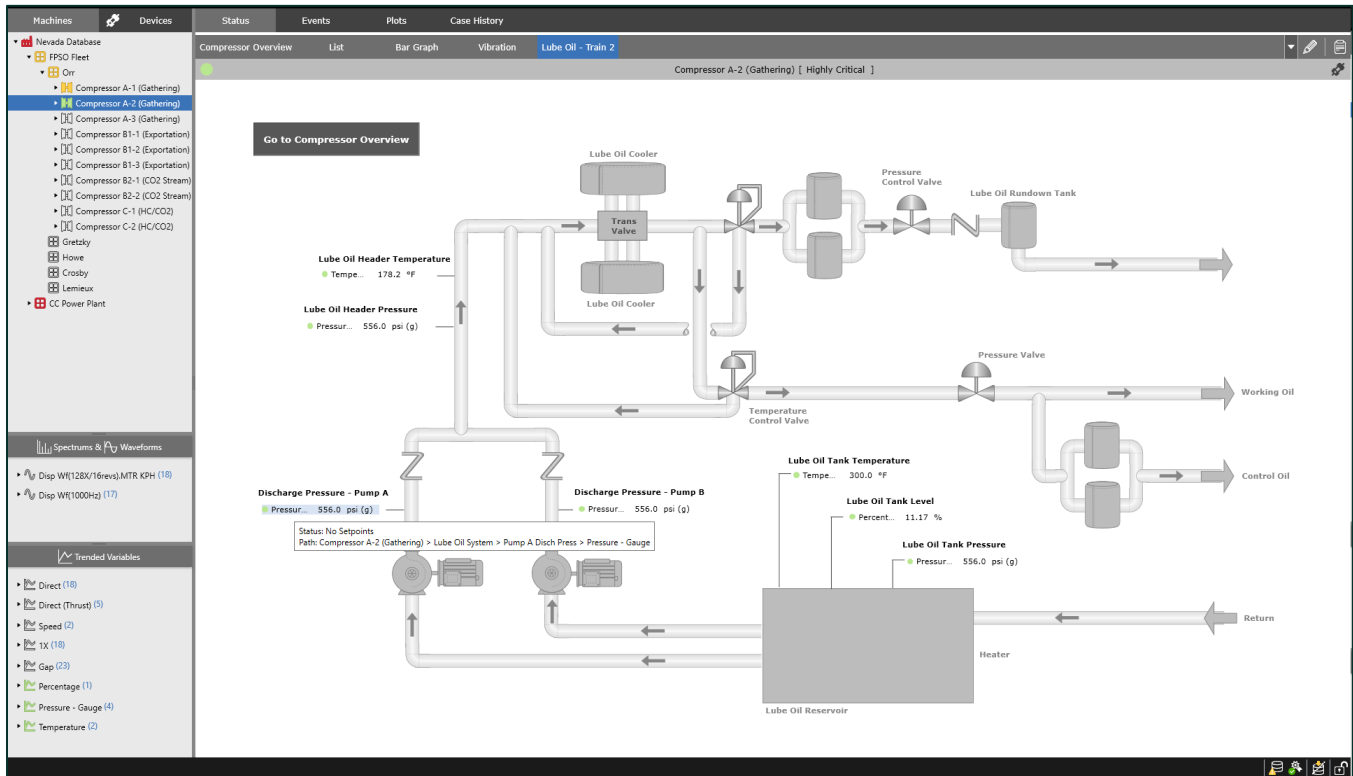

Figure 36: Pasted Lube Oil System Content, with points auto-swapped
- As Compressor A-2 has corresponding process tag measurements, the measurement point tables from Compressor A-1 are automatically replaced with the corresponding measurements from Compressor A-2 (Figure 36)